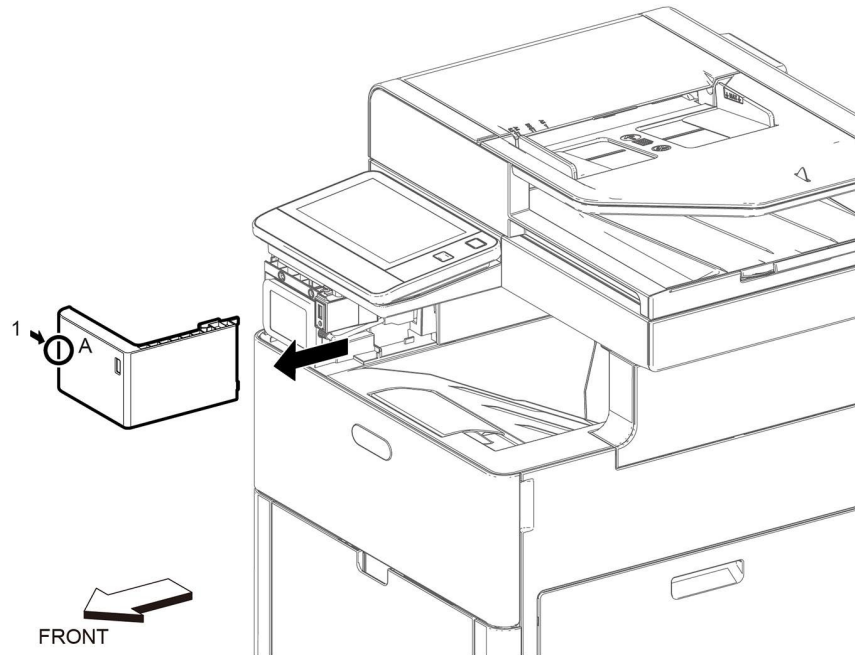

Figure 1 ICCR cover removal
1. Press in (1) on the ICCR cover (A), then remove the ICCR cover, Figure 1.